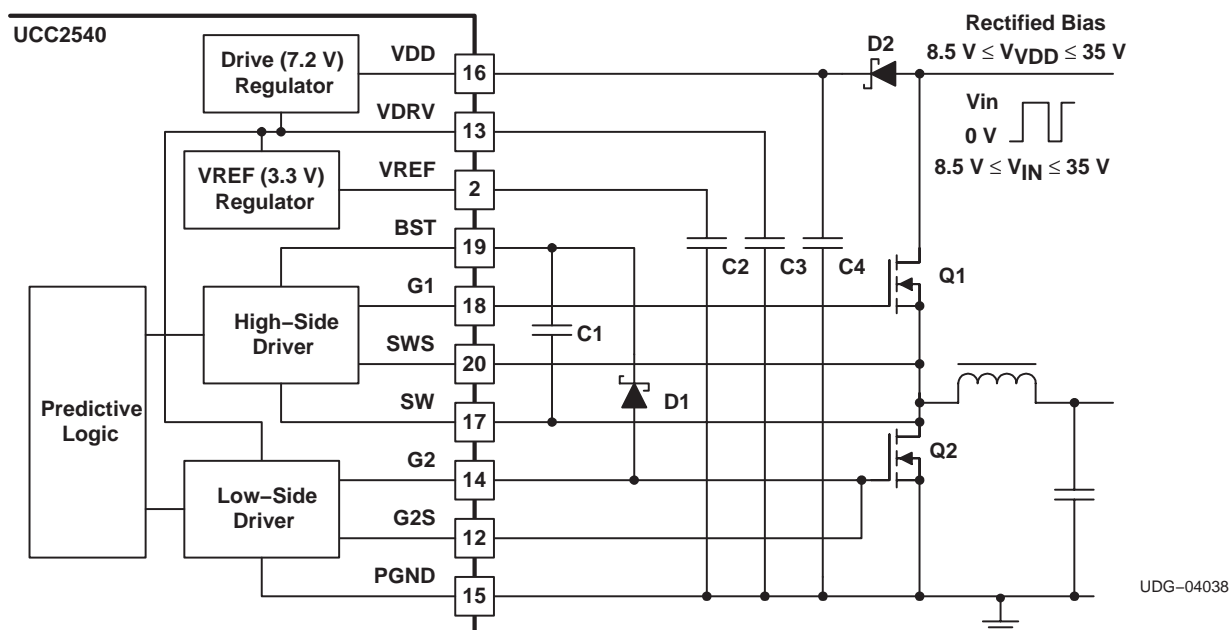
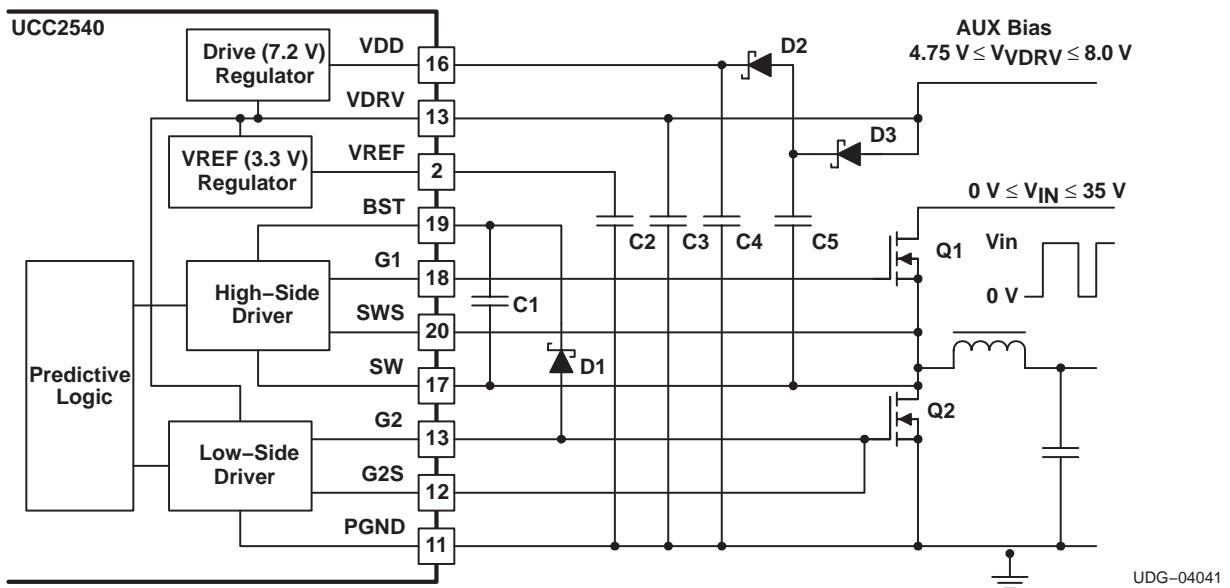
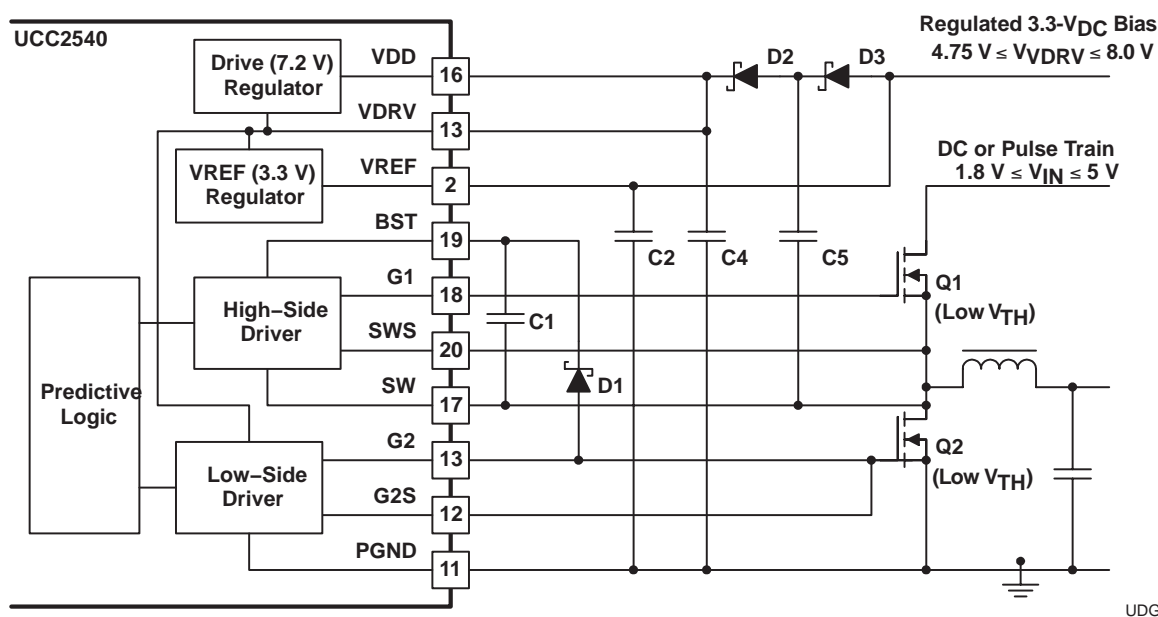

Figure 13. Mode 1 With Rectified Biasing for Input Voltages Between 8.5 V and 35 V
Figure 16. Mode 2 With Auxiliary Biasing for Bias Voltages Between 4.75 V and 8.0 V
Figure 18. Mode 3 With Regulated 3.3-V_{DC} Bias
- Mode 1, or normal operation requires the availability of a bias of 8.5 V or higher for the device. Here, the bias drives the VDD pin. The low-side drive bias, V_{VDRV} = 7 V, is generated from an internal linear regulator and it directly draws current from the VDD pin. The high-side driver bias is a flying capacitor that is charged from the VDRV pin through the G2 pin, when G2 is HI, via a diode between G2 and BST. The UCC2540 operates in Mode 1 if V_{VDD} > (V_{VDRV} and V_{VREF}) when V_{VREF} rises above 2 V. Mode 1 permits the widest range of bias voltages, operational from 8.5 V < V_{VDD} < 35 V. This mode is compatible with systems that have a 12 V_{DC} bias supply already available. Alternatively, Mode 1 is particularly useful for applications where the input line voltage varies over a wide range and the bias is to be derived directly from the reflected line voltage, such as in Fig. 13.
Assorted combinations of modes and biasing schemes are shown in Figure 13 through Figure 18. In Mode 1 and Mode 2, the bias voltage can either be an independent auxiliary supply or it can be generated by rectifying and filtering the reflected line voltage, as shown in Figure 13 through Figure 16. A regulated auxiliary supply must be used with Mode 3 because the tolerance of the VREF voltage is the control tolerance of the UCC2540. In Mode 3, the regulated auxiliary supply can be independent of the power supply input voltage (as shown in Figure 18) or, the regulated auxiliary supply can be the same source as the power supply input voltage.
Capacitors C1 through C5 are all part of a charge distribution network that allows the UCC2540 to pass charge to the MOSFET gates of Q1 and Q2 (all reference designators in this section refer to the schematics in Figure 13 through Figure 18). This section gives guidelines on selecting the values of C1 through C5 so that the converter functions properly. Specific capacitor values may need to be larger than the recommended value due to MOSFET characteristics, diode D1 – D4 characteristics and closed-loop converter performance. All three modes of operation require a charge pump capacitor and diode, C1 and D1, in order to drive the high-side power MOSFET. Modes 2 and 3 require additional charge pump capacitors and diodes in order to supply voltage to VDD. In general, all charge pump diodes should be Schottky diodes in order to have low forward voltage and high speed. The charge pump capacitors should be ceramic capacitors with low effective series resistance (ESR), such as X5R or X7R capacitors.